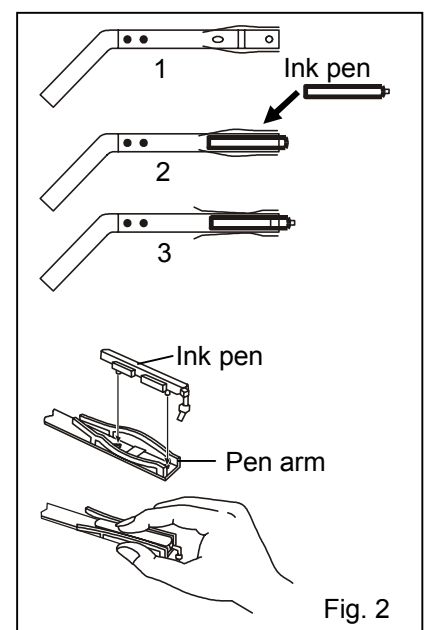

Fig. 2
NOTE: Loading a pen, turn the power OFF and then ON again to return to the normal mode. (Refer to Fig. 2 when loading a ink pen.
3. Press both sides of the pen arm as indicated by the arrows to open the head clamp at A and B. (See to Fig. 2 illustration 1)
4. Position the ink pen so that the guide pins fit into the guide holes on the pen arm. (See to Fig. 2 illustration 2)
5. Press the two sides of the head clamp as indicated by the arrows to secure the ink pen. (See to Fig. 2 illustration 3) From the side view, the cartridge should fit perfectly on the arm. Confirm that the pen arm is attached to both sides of the ink pen.